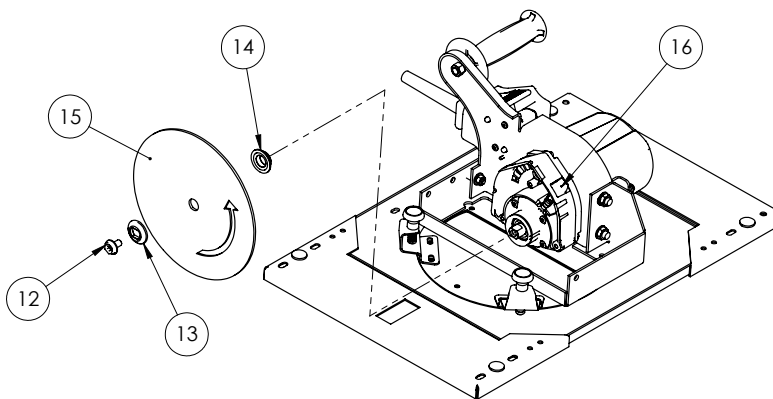

Figure 18: Installing a Saw Blade (C & H Series)
3. Tighten the carriage lock. While holding the spindle lock “in” (Fig. 18, #16) (located on the bottom side of the motor) **remove the blade bolt (#12)** from the saw motor spindle by turning it **counterclockwise**. Remove the outer blade flange (#13), but leave the inner blade flange (#14) on the spindle.
4. Install the blade with the arrow pointing counterclockwise as shown Fig. 18, #15.